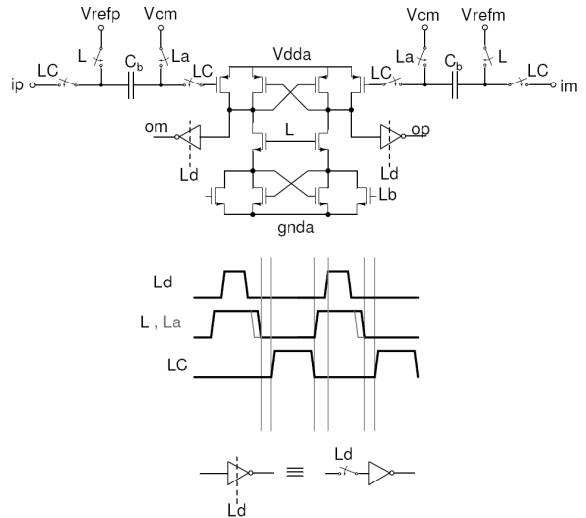

Figure 4: Latch for flash A/D
5. This problem discusses another way of subtracting differential references from the differential input. This is done by the use of coupling capacitors  $C_b$  as shown in Fig. 4